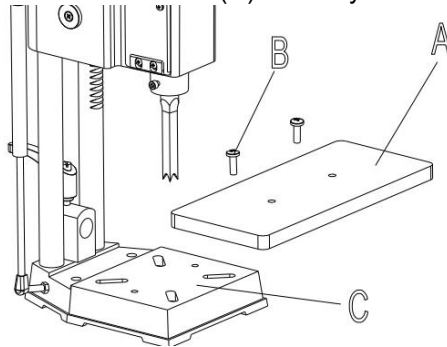

Fig. 6
- 1.Assemble the table (A) Fig. 6, to the base using the two M6x1x35mm flat head screws (B) Insert the two screws (B) into the two holes (D) in table (A). Place the two T-nuts (C) into the slots (E) provided in the bottom of the base and tighten the two screws (B) into the two T-nuts (C) securely.
- 2.The table (A) Fig. 6, can be moved in or out by loosening the two screws (B), and re-positioning the table, and then tightening screws (B).